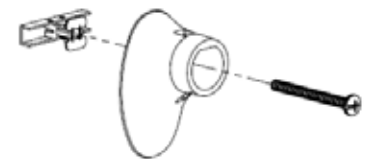

Figure 3
STEP 3. Layout the aluminum retainer "face up", mark and drill the mounting bracket hole locations, using the groove in the retainer to locate the centerline of the retainer (Figure 3, page 3).